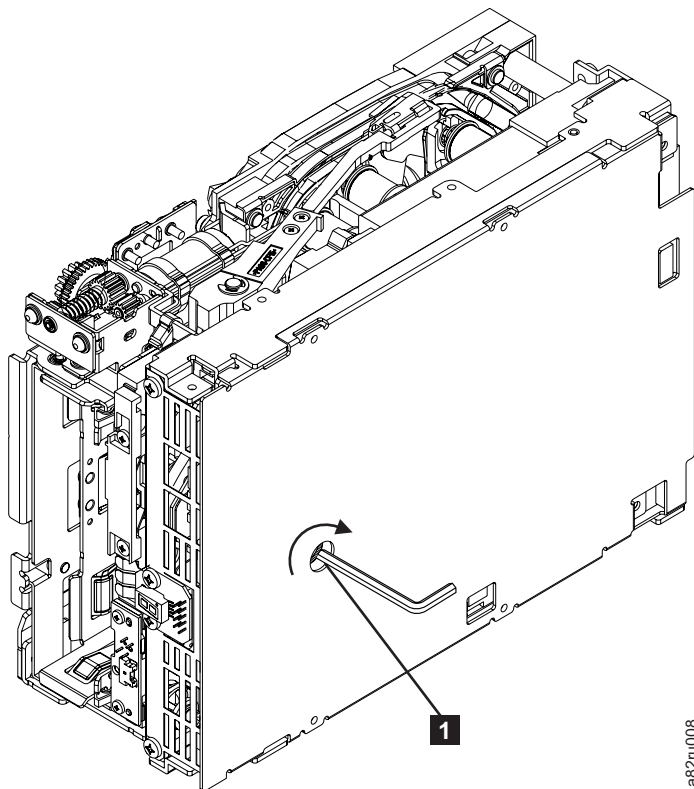

Figure 34. Using hex wrench to rewind tape into cartridge
- \_\_\_ Step 6. From the bottom of the drive, locate the access hole ( **1** in Figure 34) in the bottom cover. Insert a 2.5 mm offset hex wrench through the bottom cover access hole and into the reel motor axle. begin spooling tape back into the cartridge by turning the hex wrench clockwise.